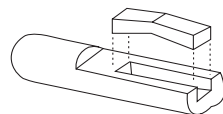
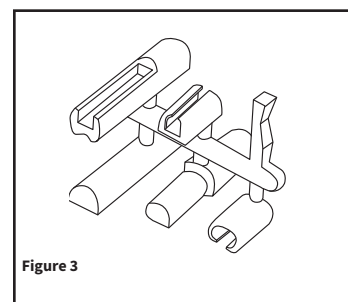

Figure 4
Figure 3
7. Temporarily mount the switch and place the original dial on the new switch shaft using one or more of the adaptors on the sprue tree (Figure 3). Make sure the shaft goes in all the way. See Figure 4 for assembly of spring clip to adaptor if applicable.